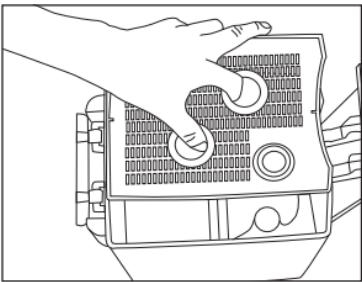

fig 11
- Remove the lid of the filtering materials by inserting your fingers into the appropriate holes to facilitate the operation (fig.11).
N.B.: before closing the hooks or forcing the safety levers, make sure that the filtering material are in their proper position, that the containers of the filtering materials overlap perfectly (i.e. that no materials protrude) and that the lid of the filtering materials (fig.11) is in the correct position.